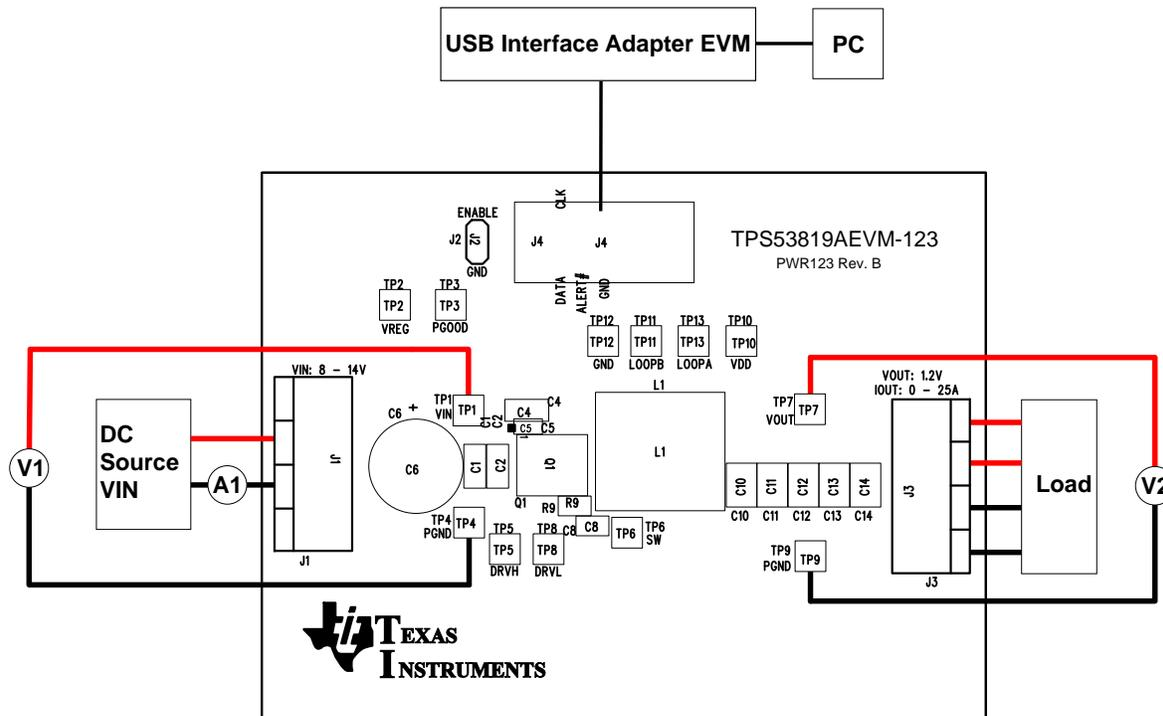

Figure 4. TPS53819AEM-123 Recommended Test Set Up
Figure 4 is the recommended test set up to evaluate the TPS53819AEM-123. Working at an ESD workstation, make sure that any wrist straps, bootstraps or mats are connected referencing the user to earth ground before power is applied to the EVM.
1. Prior to connecting the DC input source VIN, it is advisable to limit the source current from VIN to 10-A maximum. Make sure VIN is initially set to 0 V and connected to J1 as shown in Figure 4.
2. Apply the input voltage to the EVM. Refer to Figure 4 for connections and test setup.
1. Set up EVM as described in Section 4 and Figure 4.
2. Set up EVM as described in Section 4 and Figure 4.